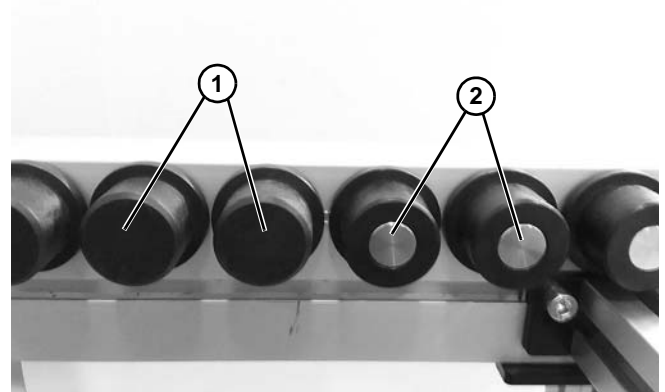

Figure 40
*There are two different style rollers available: Driven rollers (**Figure 40, item 1**) and slip rollers (**Figure 40, item 2**).*